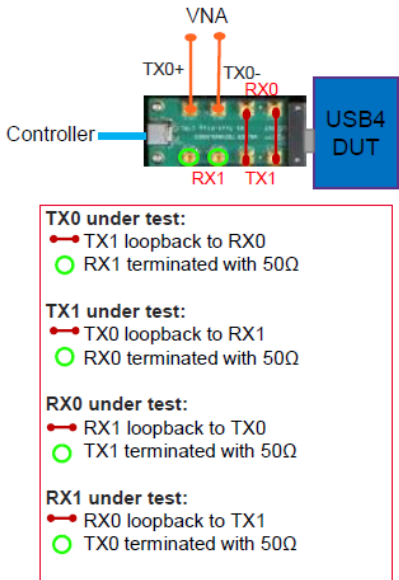

Figure 210 SMP test fixture - Tx/Rx lane switching
- 8 In case of SMP test fixture, Tx/Rx lane under test can be switched as shown in Figure 210.